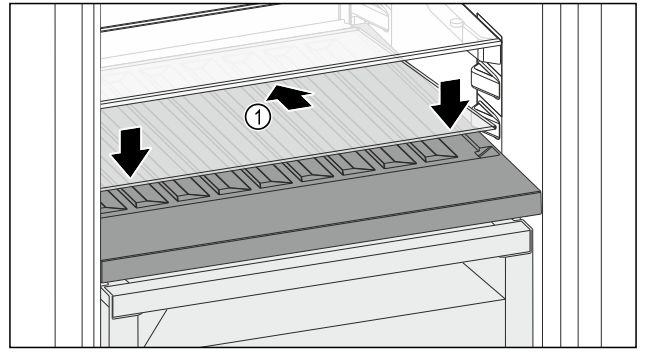

Fig. 164
- ▶ Place the glass shelf Fig. 164 (1) at an angle, sloping it downwards and backwards.
- ▶ Lower the glass shelf Fig. 164 (1) at the front.